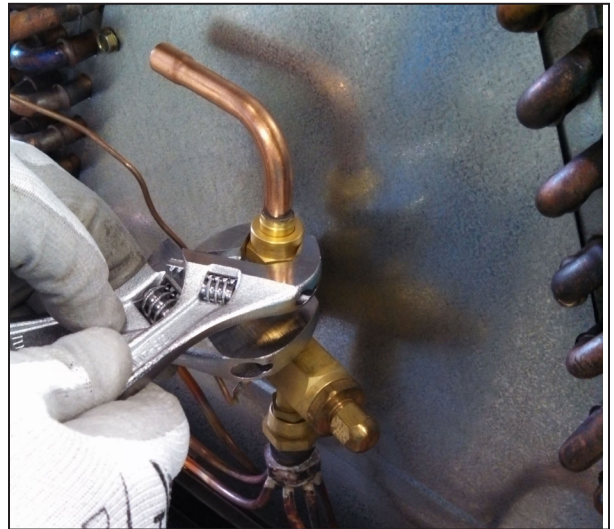

Figure 6 – Connecting liquid line
- 4) Connect the liquid line from the removed coil to the TEV by bolting it to the refrigerant entering connection of the TEV. (See Figure 6)